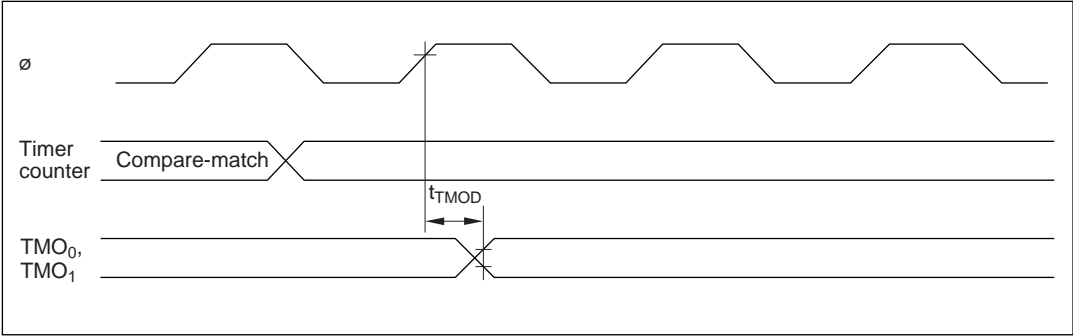

Figure 16-12 8-Bit Timer Output Timing
16.3.4 8-Bit Timer Timing	Figures 16-12 to 16-14